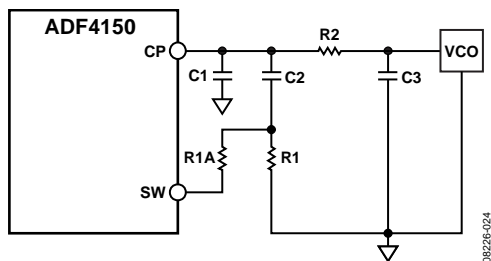

Figure 28. Fast Lock Loop Filter Topology—Topology 2
- An extra resistor (R1A) is connected directly from SW, as shown in Figure 28. The extra resistor is calculated such that the parallel combination of an extra resistor and the damping resistor (R1) is reduced to $1/4$ of the original value of R1 (see Figure 28).